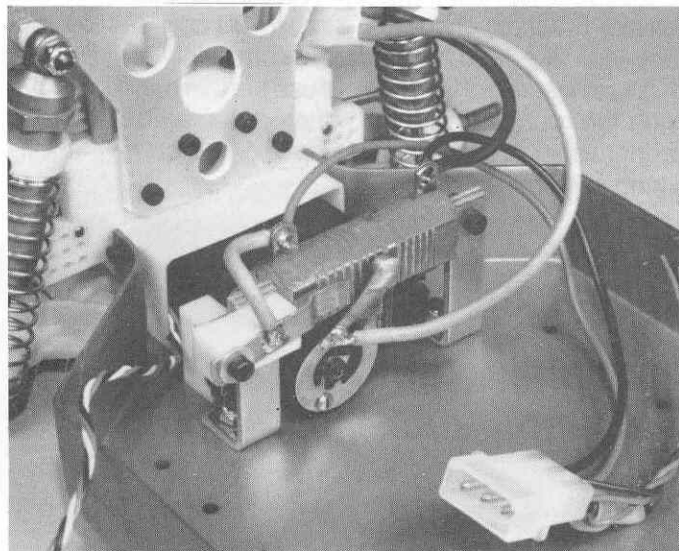

Fig. 173
□ **Fig. 173** Medium (S28) servo installed.